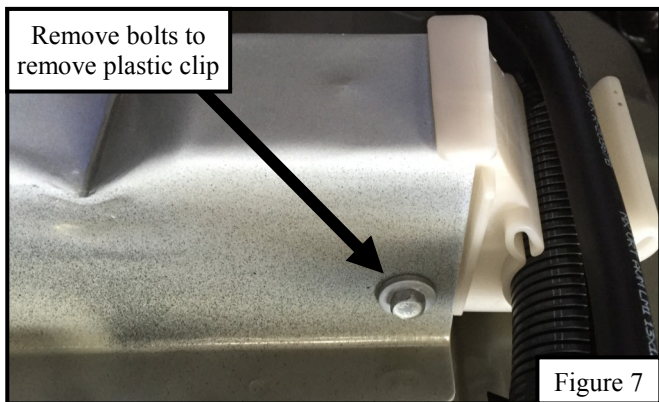

Figure 7
- At the rear driver side of the vehicle locate a plastic clip that holds wires in place. Remove plastic clip and leave off to the side with wires still attached. See **Figure 7**.
11. Re-attach plastic clip, shown in **Figure 7**, back onto the bed channel.